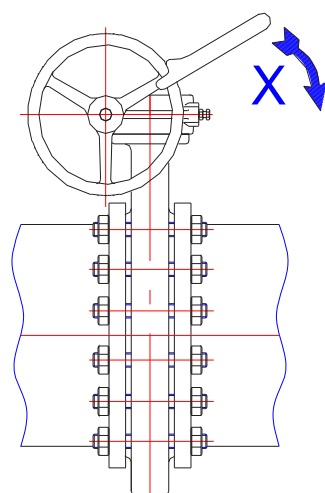

Fig.29
**17.3.4** Do not use a "F" wrench to operate the hand wheel of gear box. (Fig.29)